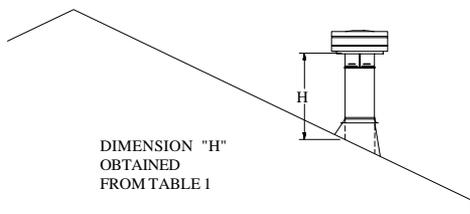

Fig 16
Step 8. Continue to add Pipe Sections until the height of the Vent Cap meets the minimum building code requirements described in Fig 16. Note that for steep roof pitches, the vent height must be increased. In high wind conditions, nearby trees, adjoining rooflines, steep pitched roofs, and other similar factors can result in poor draft, or down-drafting. In these cases, increasing the vent height may